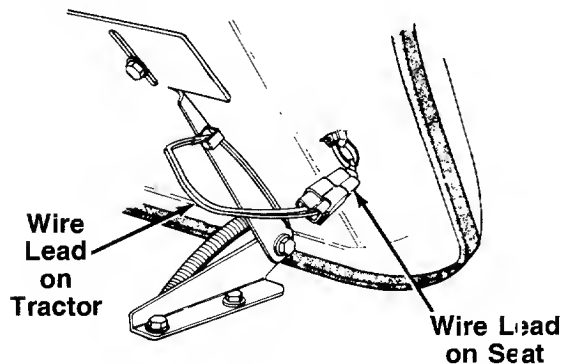

FIGURE 4.—Models 723, 728, 733, 738, 743, 748, 753 and 758
2. **All Models:** Plug the wire lead which is in the wire harness beneath the seat into the plug on the wire lead extending from the right hand side of the seat. Make certain to route the wire in front of the right hand seat bracket so the wire is not pinched when raising and lowering the seat on models 723, 728, 733, 738, 743, 748, 753 and 758. See figure 4.